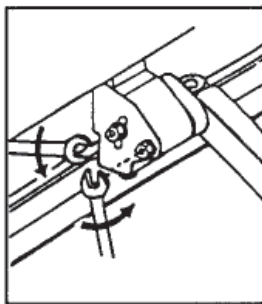
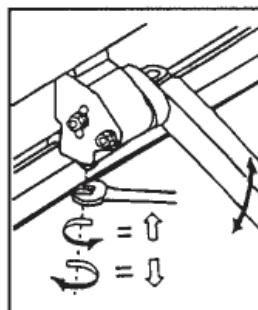
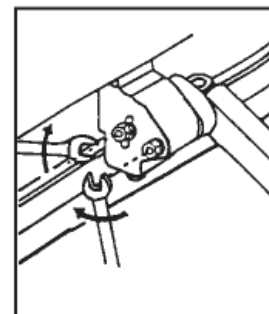

Figure 2a
Figure 2b
Figure 2c
2. At the selected turn, loosen the (2) locknuts located at the side of the upper arm connection using a 19mm (3/4”) open end wrench.
4. Tighten the (2) locknuts located on the side of the arm connection.
PITCH ANGLE: The awning comes factory pre-set with a pitch angle of approximately 20°. This represents the minimum angle recommended for proper rain run-off. If it is desired to increase this angle, loosen the two (2) lock nuts located on the outside upper joint of each arm using a 3/4” or 19 mm wrench (*see fig. 2a*). Adjust the arms downward by rotating the bolt head at the bottom of the arm connection in a counter clockwise direction (looking from the bottom up) (*see fig. 2b*). Likewise, rotating the bolt in a clockwise direction will raise the arm. After all arms are adjusted to an equal height, re-tighten lock nuts on the side of each arm (*see fig. 2c*).